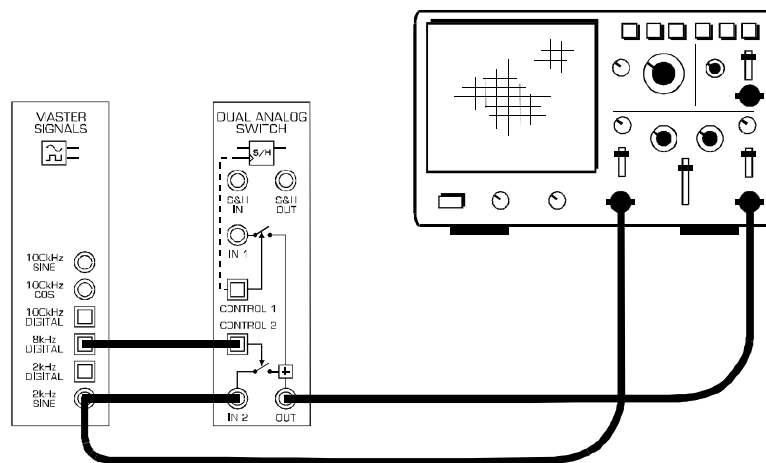

Figure 2
2. Connect the set-up shown in Figure 2 below.
The set-up in Figure 2 can be represented by the block diagram in Figure 3 below. It uses an electronically controlled switch to connect the message signal (the 2kHz *SINE* output from the Master Signals module) to the output. The switch is opened and closed by the 8kHz *DIGITAL* output of the Master Signals module.